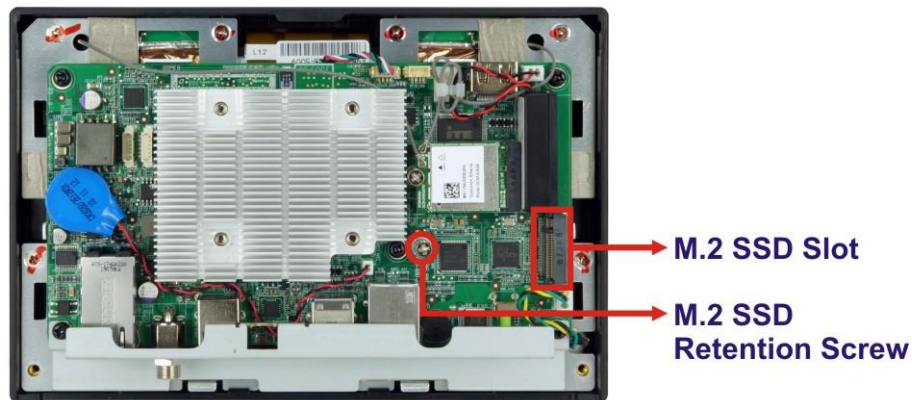

Figure 3-3: M.2 Slot Location
Step 3: Locate the M.2 B-key 2242 slot. Remove the preinstalled retention screw on the screw pillar of the M.2 slot as shown in **Figure 3-3**.